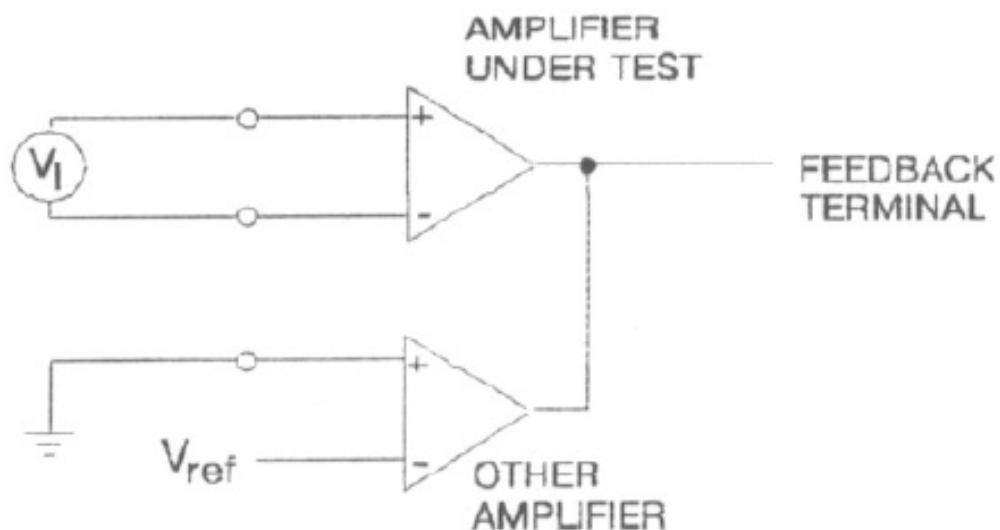

Figure 2. Amplifier characteristics
**Amplifier section (See Figure 2)**